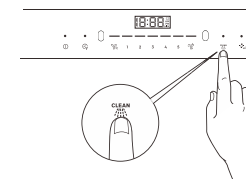

Fig. 14
- Activate Self-Clean by pressing the button  once. (Fig. 14)